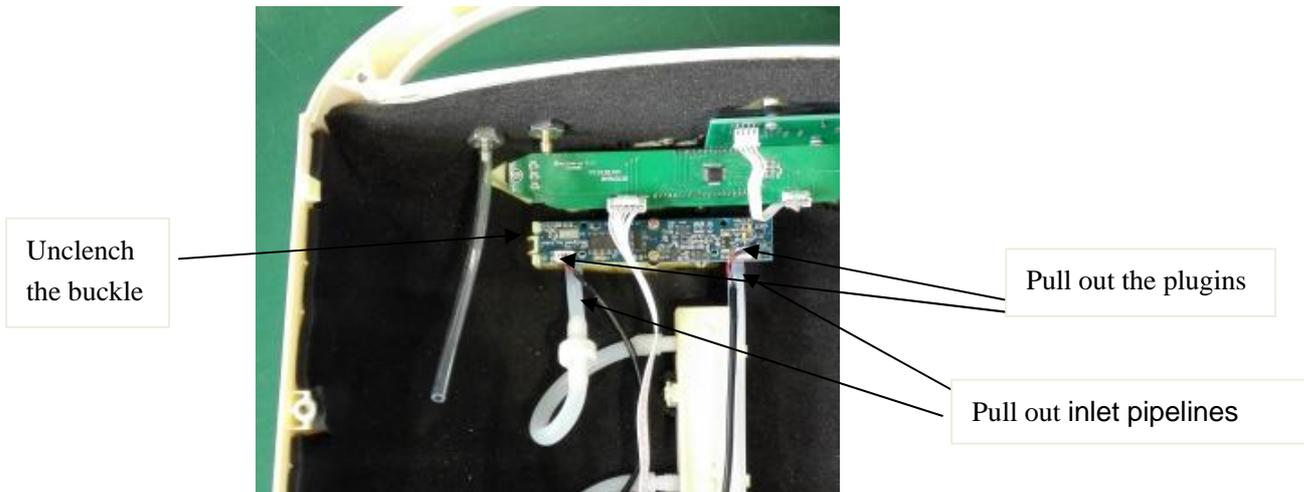

Figure 8
- Ø Using the straight screwdriver to unclench the left Buckle on the Oxygen Sensor, then pull out the Oxygen Sensor.(Figure 8)